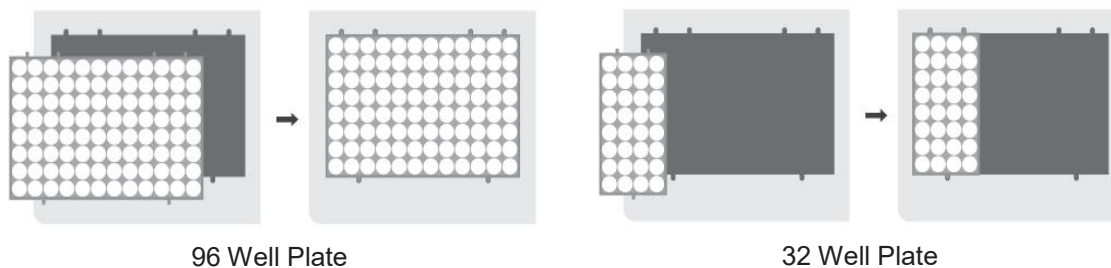

Figure 4: Positioning of the 96 or 32 well plates on the plate loader
6. Place the extraction plate on the plate loader. Note that the plastic cavities needs to fit in their position (Figure 4).